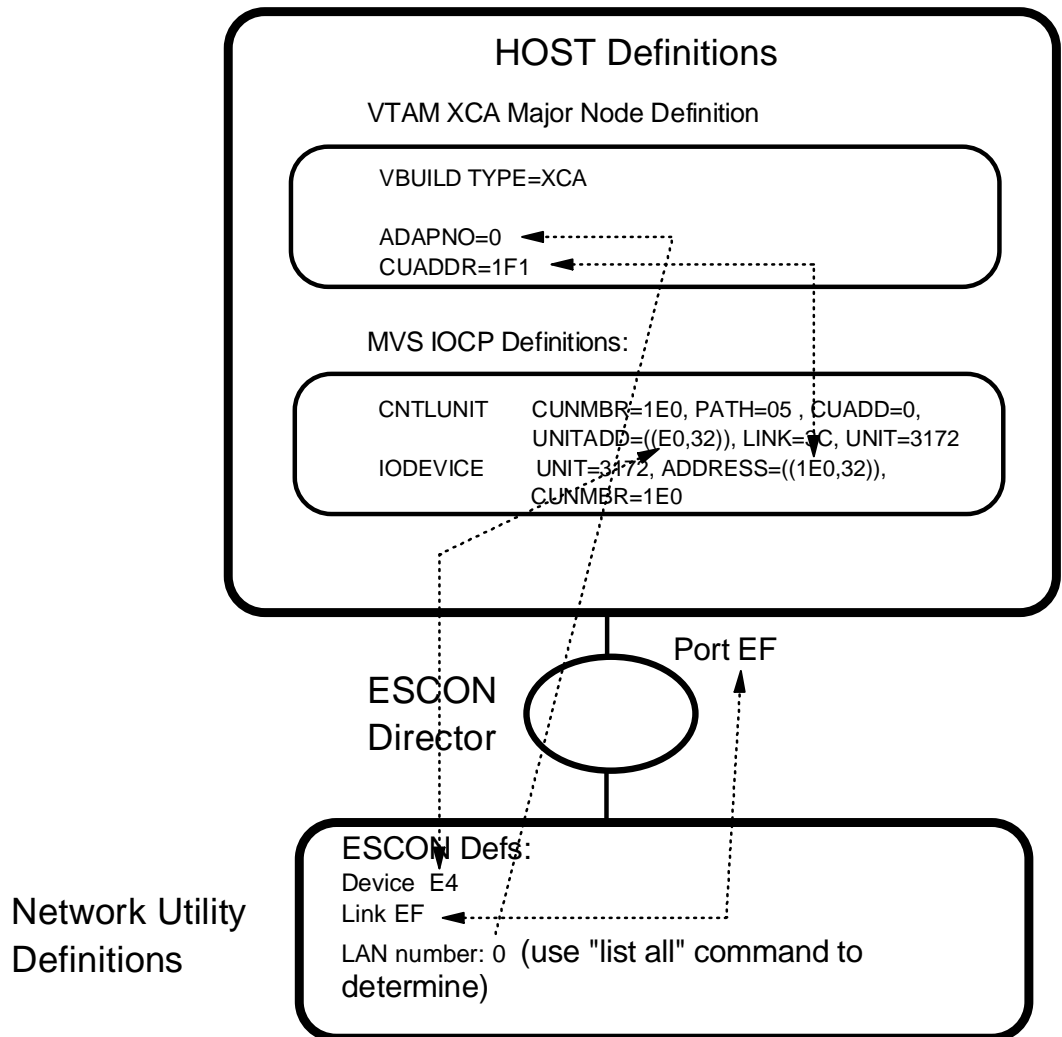

Figure 14-5. Host/Network Utility Parameter Relationships - LSA
**The LSA Direct Interface:** Figure 14-5 on page 14-8 shows how the configuration parameters for the Network Utility correlate to the host parameters for an LSA interface definition.
2. The device address specified in the Network Utility LSA interface definition must be within the range specified in the UNITADD parameter in the CNTLUNIT macro from the IOCP. For example, the UNITADD parameter in Figure 14-5 shows that 32 (decimal) device addresses starting at E0 (hex) are being reserved for the Network Utility definition. A device address of E4 has been specified for the Network Utility LSA interface. Since E4 is in the range between E0 and FF hex, this is OK as long as no other device (or interface on this Network Utility) tries to use that subchannel.
3. The value specified in the CUADDR parameter in the VTAM XCA major node definition must be within the range specified in the ADDRESS parameter in the IODEVICE macro from the IOCP. For example, the CUADDR parameter in the XCA major node definition in Figure 14-5 is 1F1 hex, which is in the range between 1E0 and 1FF that the ADDRESS parameter in the IODEVICE statement specifies.